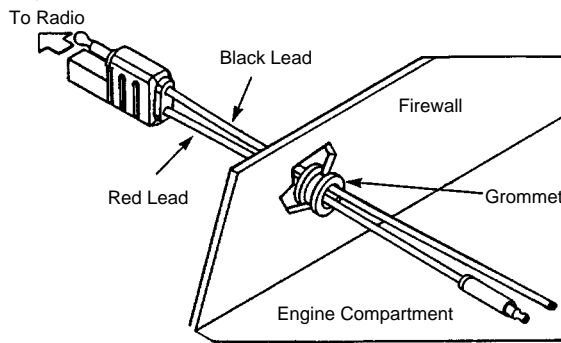

Figure 7 Cable Routing into Engine Compartment
3. From inside the vehicle, feed the red and black leads (without lugs attached) through the access hole and into the engine compartment. (See Figure 7).